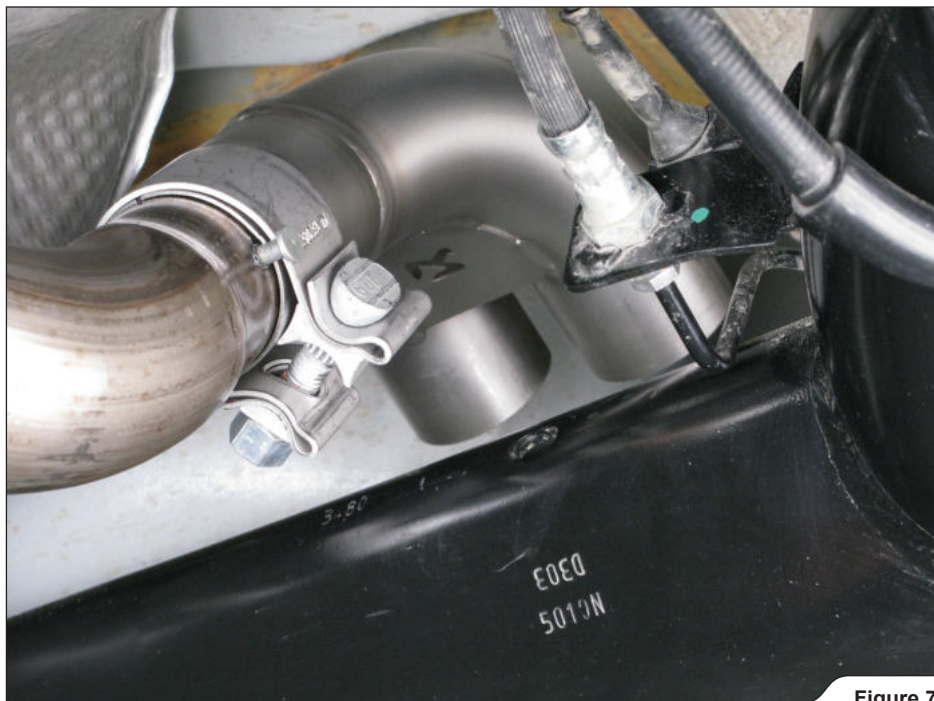

Figure 7
- Slide the collector onto the original pipe and hand tighten the clamp (**Figure 7**).